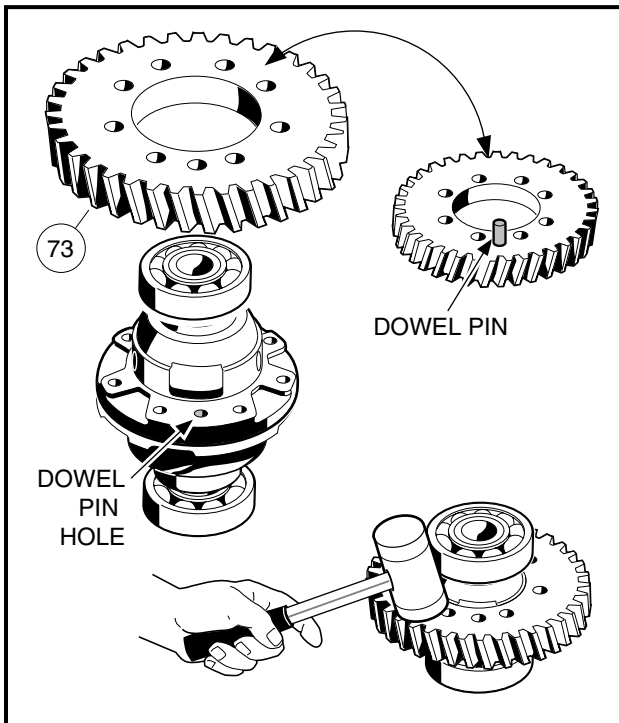

Figure 5-37 Ring Gear
6. Position the output ring gear (73) on the carrier case, visually aligning the dowel hole in the carrier case with the dowel pin in the ring gear (**Figure 5-37, Page 5-20**). Using a plastic or rubber mallet, tap the ring gear into place on the dowel pin.